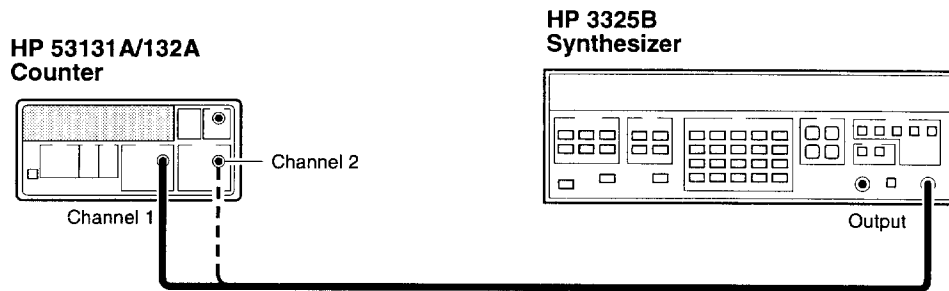

Figure 1-11. Peak Volts Test Setup
- 1 Connect the equipment as shown in Figure 1-11.